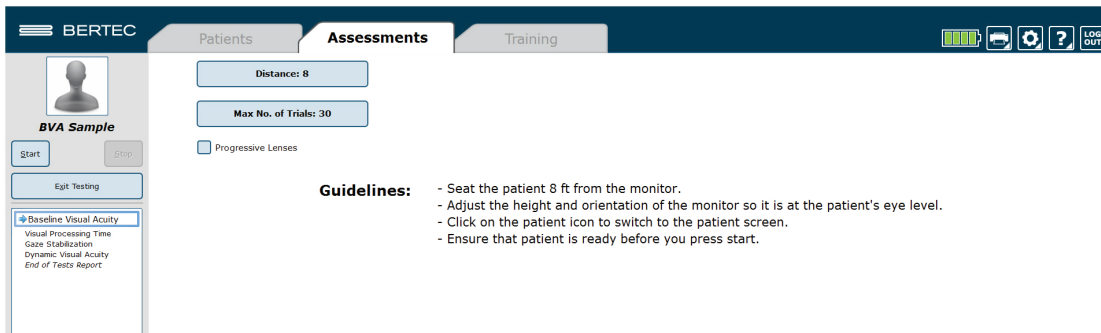

Figure 19. Clinician Screen
4. The Clinician Screen (Figure 19) for the first test in the list should now appear.
- b. If the patient screen does not appear, click F12 on the keyboard, or click on the patient picture on the top left of the screen (see Figure 19)